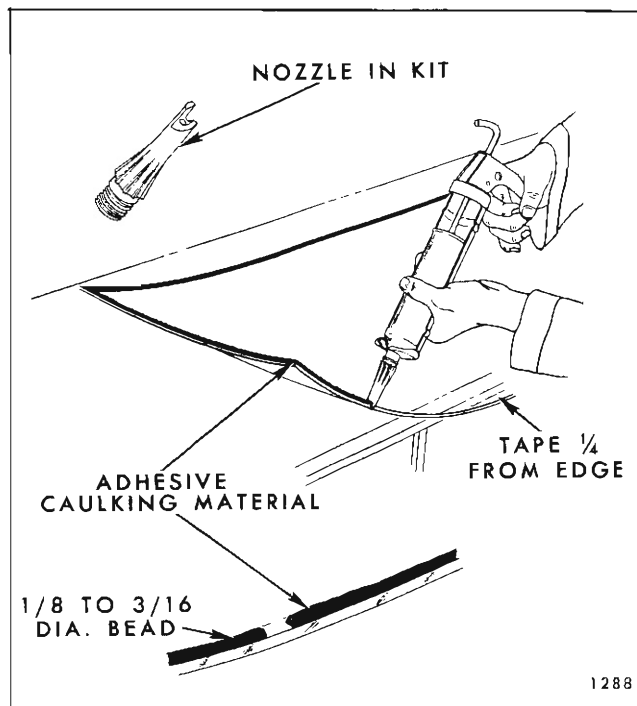

Fig. 1C10—Adhesive Caulking Material Application—Short Method
10. With aid of helper, lift glass with one hand on outside of glass and one hand on inside of glass. Carefully move glass up to windshield opening maintaining glass in a horizontal position. While one man holds glass in this position, the second man can reach around the windshield pillar and hold glass; then, first man can reach around windshield pillar (Fig. 1C11). Carefully position glass into opening, making certain that glass is properly centered in opening and positioned on lower spacers. Use tape previously applied on windshield pillars to properly align glass (Fig. 1C9).